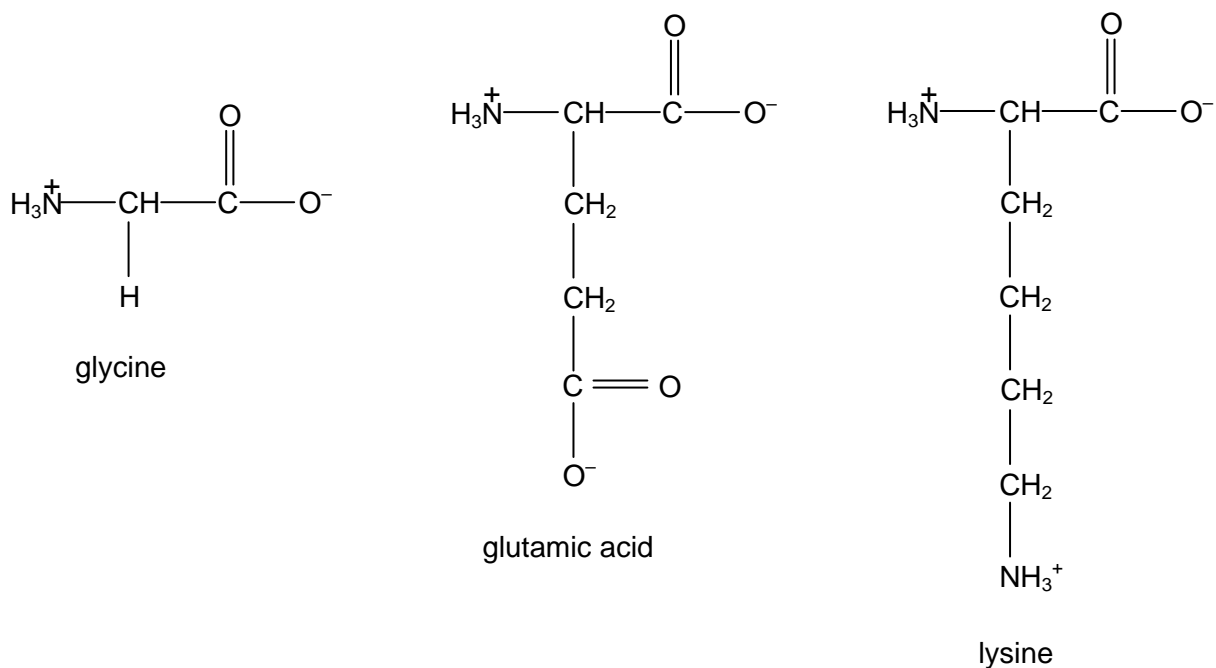

Figure 2.37 – structures of glycine, glutamic acid and lysine at pH 7
- place a drop of a dilute solution containing the three amino acids glycine, glutamic acid and lysine (see Figure 2.37) in the middle of the paper